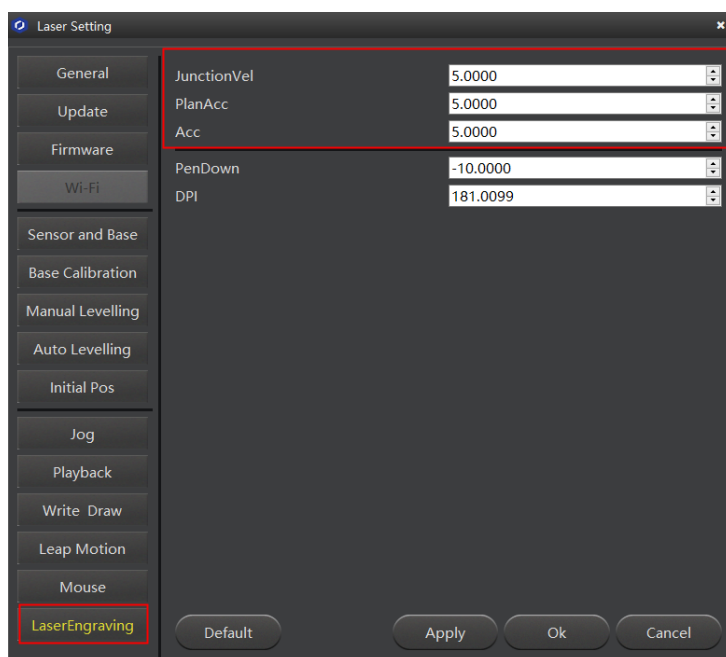

Figure 5.85 Set the parameters of laser engraving
2. Set the **JunctionVel** (junction velocity), **PlanAcc** (linear acceleration), and **Acc** (**acceleration**), for example, set all to 5, as shown in Figure 5.85.